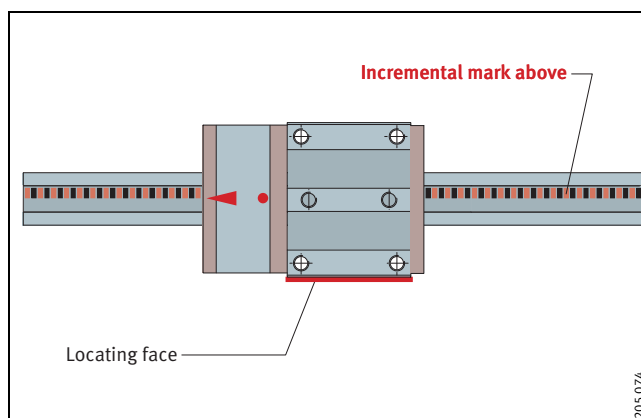

Figure 9 • Measuring head on left of carriage
- if the measuring head is on the left of the carriage, the incremental mark is above (Figure 9)